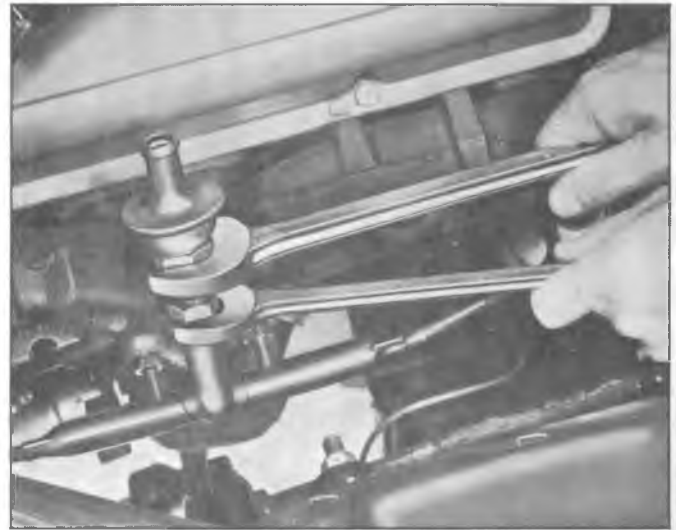

Fig. 6T-43—Removing Check Valve
- With engine stabilized at idle speed, no air should be escaping through the muffler. Manually open and quickly close the throttle, a momentary blast of air should discharge through muffler for at least one second (fig. 6T-45).